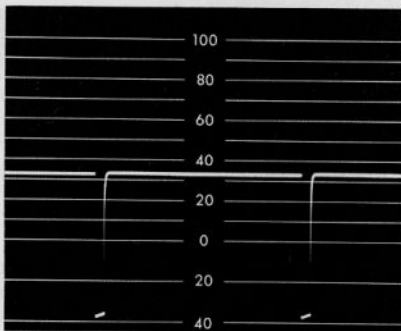

Figure 51—REF Pulse
- b. REF—a 60-Hz (or 50-Hz)\* reference pulse should be present, See figure 51.